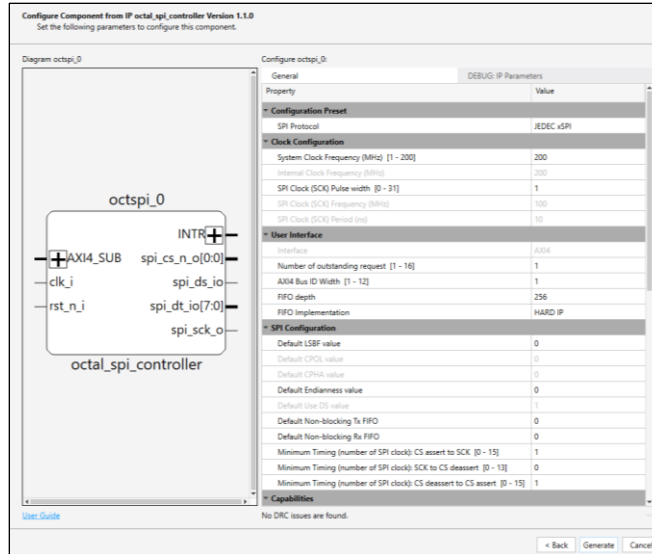

Figure 7.2. IP Configuration (View 1)
5. Customize the selected Octal SPI Controller IP using drop-down lists and check boxes. Figure 7.2 through Figure 7.5 show an example configuration of the Octal SPI Controller IP. For details on the configuration options, refer to the IP Parameter Description section.